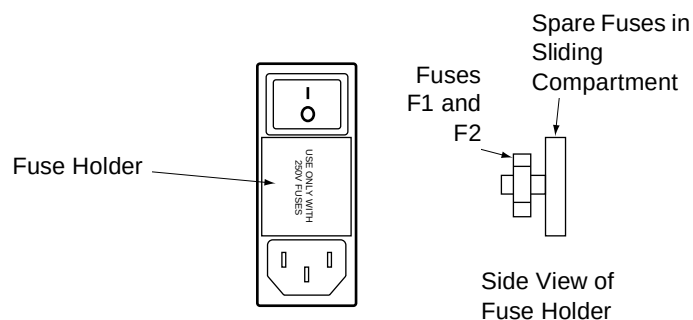

**Figure 10-6. Adept MV Controller Fuse Holder**
3. To remove the fuse holder, insert a small flat-blade screwdriver into the slot between the fuse holder and the power cord socket, then lift up to release the fuse holder; see Figure 10-6. Spare fuses are stored in the sliding compartments.